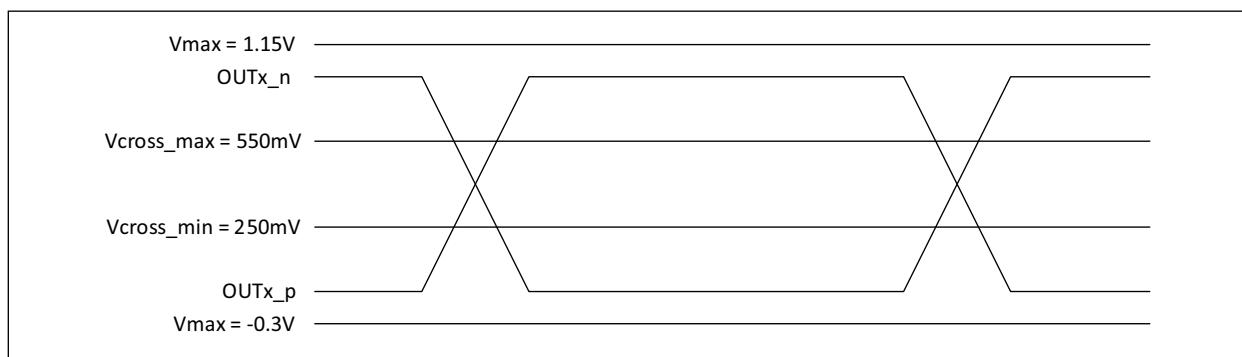
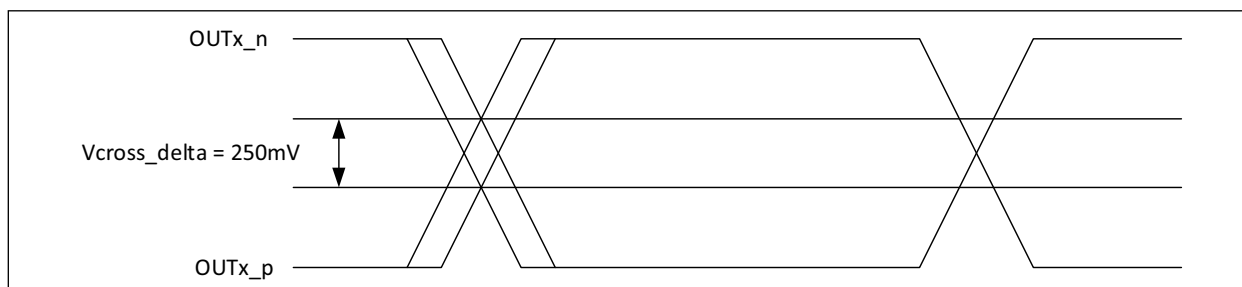

FIGURE 4-1: Single-Ended Measurement Points for Absolute Cross Point and Swing.
FIGURE 4-2: Single-Ended Measurement Points for Delta Cross Point.
Note 1: Values are over Recommended Operating Conditions.**2:** Measurement taken from single-ended waveform.**3:** Measurement taken from differential waveform.**4:** Measured from -150 mV to $+150$ mV on the differential waveform (derived from CK minus CK#) The signal must be monotonic through the measurement region for rise and fall time. The 300 mV measurement window is centered on the differential zero crossing. See Figure 4-4.**5:** Measured at crossing point where the instantaneous voltage value of the rising edge of CK equals the falling edge of CK#. See Figure 4-1.**6:** Refers to the total variation from the lowest crossing point to the highest, regardless of which edge is crossing. Refers to all crossing points for this measurement. See Figure 4-1.**7:** This requirement, from PCI Express Base Specification, Revision 4.0 is applicable only to clock generators and not to buffers. A clock buffer is a transparent device whose output clock period follows the input clock period.**8:** Defined as the maximum instantaneous voltage including overshoot. See Figure 4-1.**9:** Defined as the minimum instantaneous voltage including undershoot. See Figure 4-1.**10:** Defined as the total variation of all crossing voltages of Rising CK and Falling CK# This is the maximum allowed variance in V_{CROSS} for any particular system. See Figure 4-2.**11:** The PPM requirement from PCI Express Base Specification, Revision 4.0 is related to clock generation devices. This requirement is not applicable to buffers because the buffer's output frequency accuracy is identical to the frequency accuracy of the source driving the buffer.**12:** t_{STABLE} is the time the differential clock must maintain a minimum ± 150 mV differential voltage after 20 rising/falling edges before it is allowed to droop back into the $V_{RB} \pm 100$ mV differential range. See Figure 4-5.**13:** Matching applies to rising edge rate for CKx and falling edge rate for CK#x. It is measured using a ± 75 mV window centered on the median cross point where CKx rising meets CK#x falling. The median cross point is used to calculate the voltage thresholds the oscilloscope is to use for the edge rate calculations. The Rise Edge Rate of CKx should be compared to the Fall Edge Rate of CK#x the maximum allowed difference should not exceed 20% of the slowest edge rate. See Figure 4-3.**TABLE 4-13: HCSL (PCIe) JITTER PERFORMANCE FOR $V_{DDO} = 3.3V$**
- 5: Measured at crossing point where the instantaneous voltage value of the rising edge of CK equals the falling edge of CK#. See Figure 4-1.
- 6: Refers to the total variation from the lowest crossing point to the highest, regardless of which edge is crossing. Refers to all crossing points for this measurement. See Figure 4-1.
- 8: Defined as the maximum instantaneous voltage including overshoot. See Figure 4-1.
- 9: Defined as the minimum instantaneous voltage including undershoot. See Figure 4-1.
- 10: Defined as the total variation of all crossing voltages of Rising CK and Falling CK# This is the maximum allowed variance in V_{CROSS} for any particular system. See Figure 4-2.